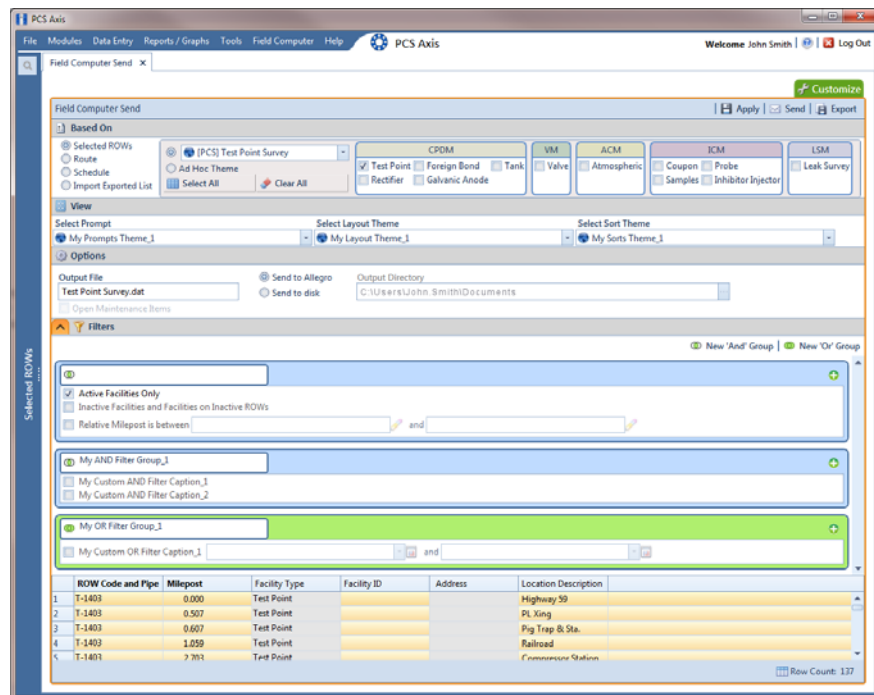

Figure 13-40. Filters
- a Click the  **Filters** tab to open the *Filters* panel (Figure 13-40, page 598).